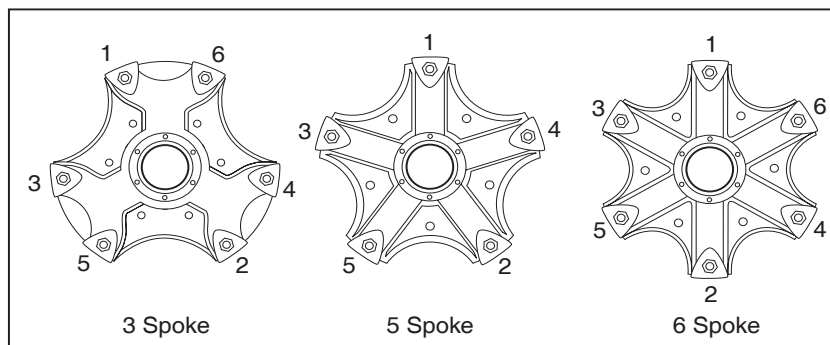

Figure 3: Nut Tightening Sequence for Spoke Wheels
6. Secure clamps evenly in position and snug-up the nuts in the sequence shown in **Figure 3**.